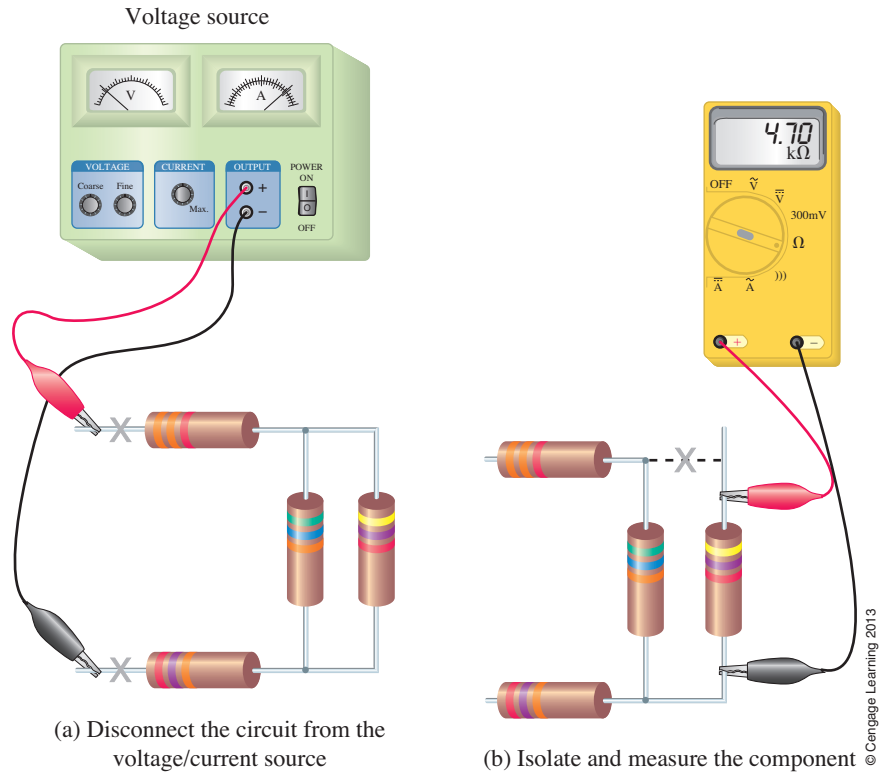

FIGURE 3-20 Using an ohmmeter to measure resistance in a circuit.
3. As shown in Figure 3-20(b), connect the two probes of the ohmmeter across the component to be measured. The black and red leads of the ohmmeter may be interchanged when measuring resistors. When measuring resistance of other components, however, the measured resistance will be dependent upon the direction of the sensing current. Such devices are covered briefly in a later section of this chapter.